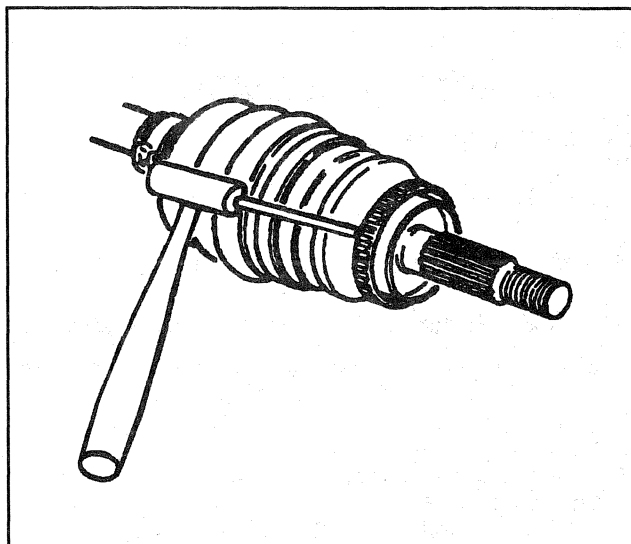

Figure 53—Removing ABS Sensor Ring
←→ Remove or Disconnect (Figure 53)
2. Sensor ring with a drift (Figure 53).